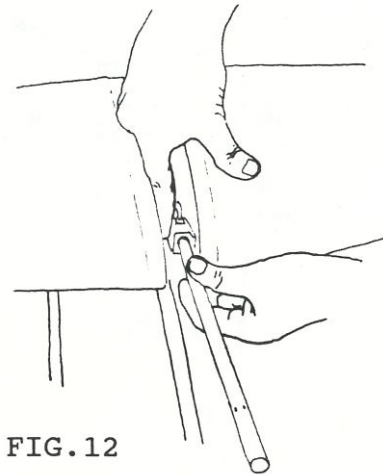
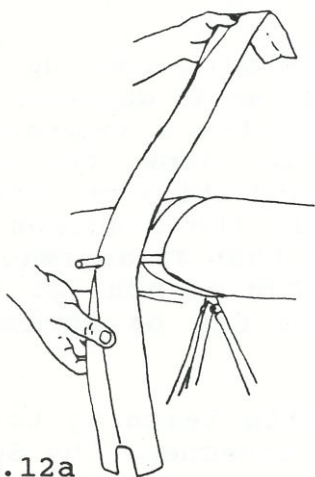

FIG. 12
FIG. 12a
12. Extend the pitot tube forward, and velcro into place.(fig.12) Connect the airspeed indicator. Slide the nose cone over the pitot tube, and velcro into place.(fig.12a)